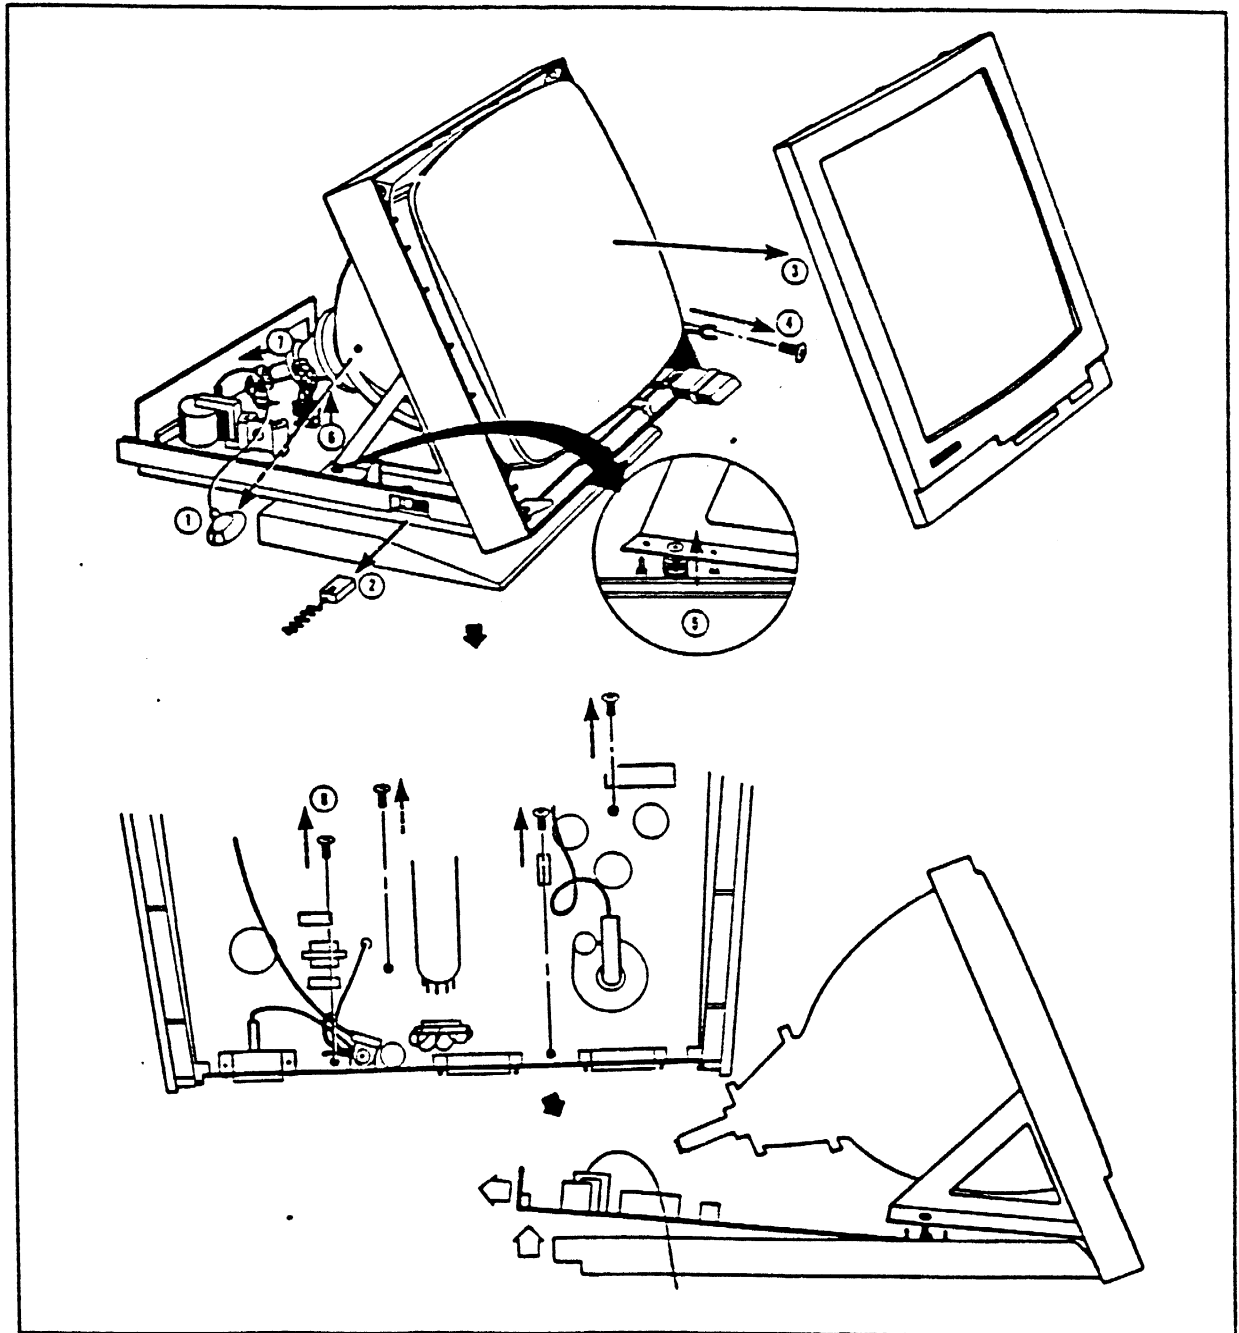

Figure 3-3. Removing the Circuit Board
- A. Reinstall logic board, Figure 3-3.
Use Figure 3-3 as reference for removing and replacing the circuit board.